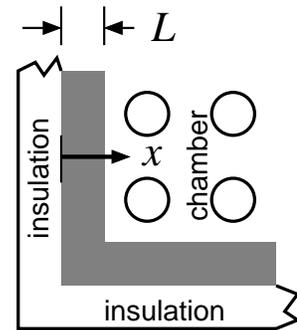

Figure 2: Boiler.
3. (10 pts) A boiler (partial cross-section shown in Fig. 2) has a pressure wall of thickness  $L = 0.02\text{ m}$  (shaded area) and is very well insulated on the outside (as marked). The wall is made of a material having  $k = 55\text{ W/(m K)}$  and  $\alpha = 1.28 \times 10^{-5}\text{ m}^2/\text{s}$  and the  $x$ -coordinate is as shown. The wall is initially at a uniform temperature of  $T_o = 300\text{ K}$ , after which flow from the combustion process commences, creating conditions of  $T_\infty = 1200\text{ K}$  and  $h = 1375\text{ W/(m}^2\text{ K)}$  within the chamber. Estimate the time (in seconds) required for every point in the wall to be at a temperature of at least  $600\text{ K}$ .